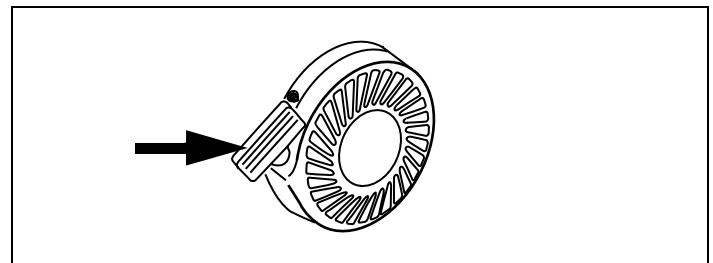

Figure 27. Recoil Starter Handle
4. Grasp starter cord handle. See Figure 27.